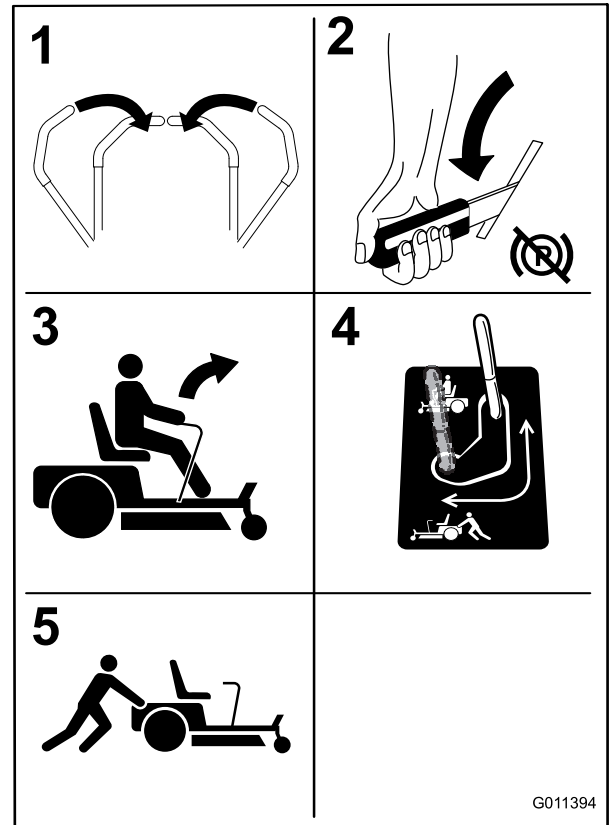

Figure 30
4. Move the bypass levers rearward and then left to lock them in place as shown in Figure 30 to disengage the wheel motors. Repeat this on each side of the machine.
Move the bypass to the position for pushing the machine (Figure 30) to engage the wheel motors.